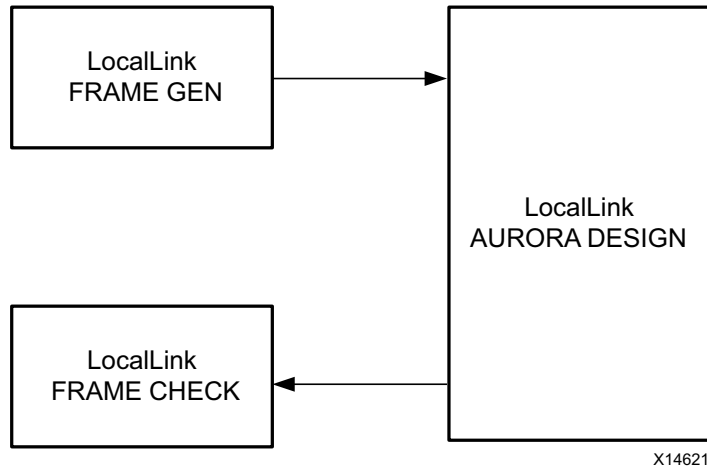
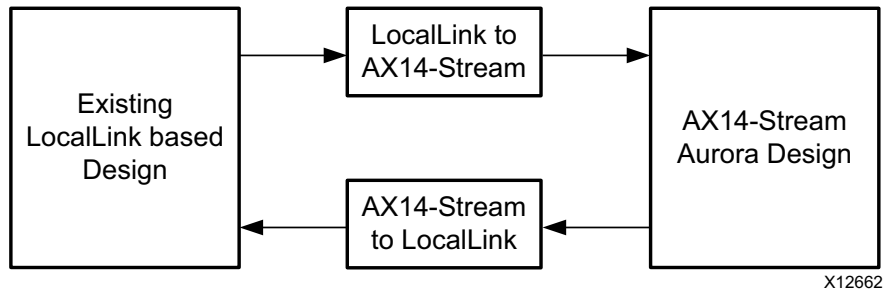

Figure B-1: Legacy Aurora 64B/66B Example Design
Figure B-2: AXI4-Stream Aurora 64B/66B Example Design
Figure B-1 shows an example Aurora 64B/66B design using the legacy LocalLink interface. Figure B-2 shows an example Aurora 64B/66B design using the AXI4-Stream interface.
2. See Figure B-2, page 109 for the emulation of a LL Aurora 64B/66B core from a AXI4-Stream Aurora 64B/66B core.
5. Connect the shim and AXI4-Stream Aurora 64B/66B design as shown in Figure B-2, page 109.